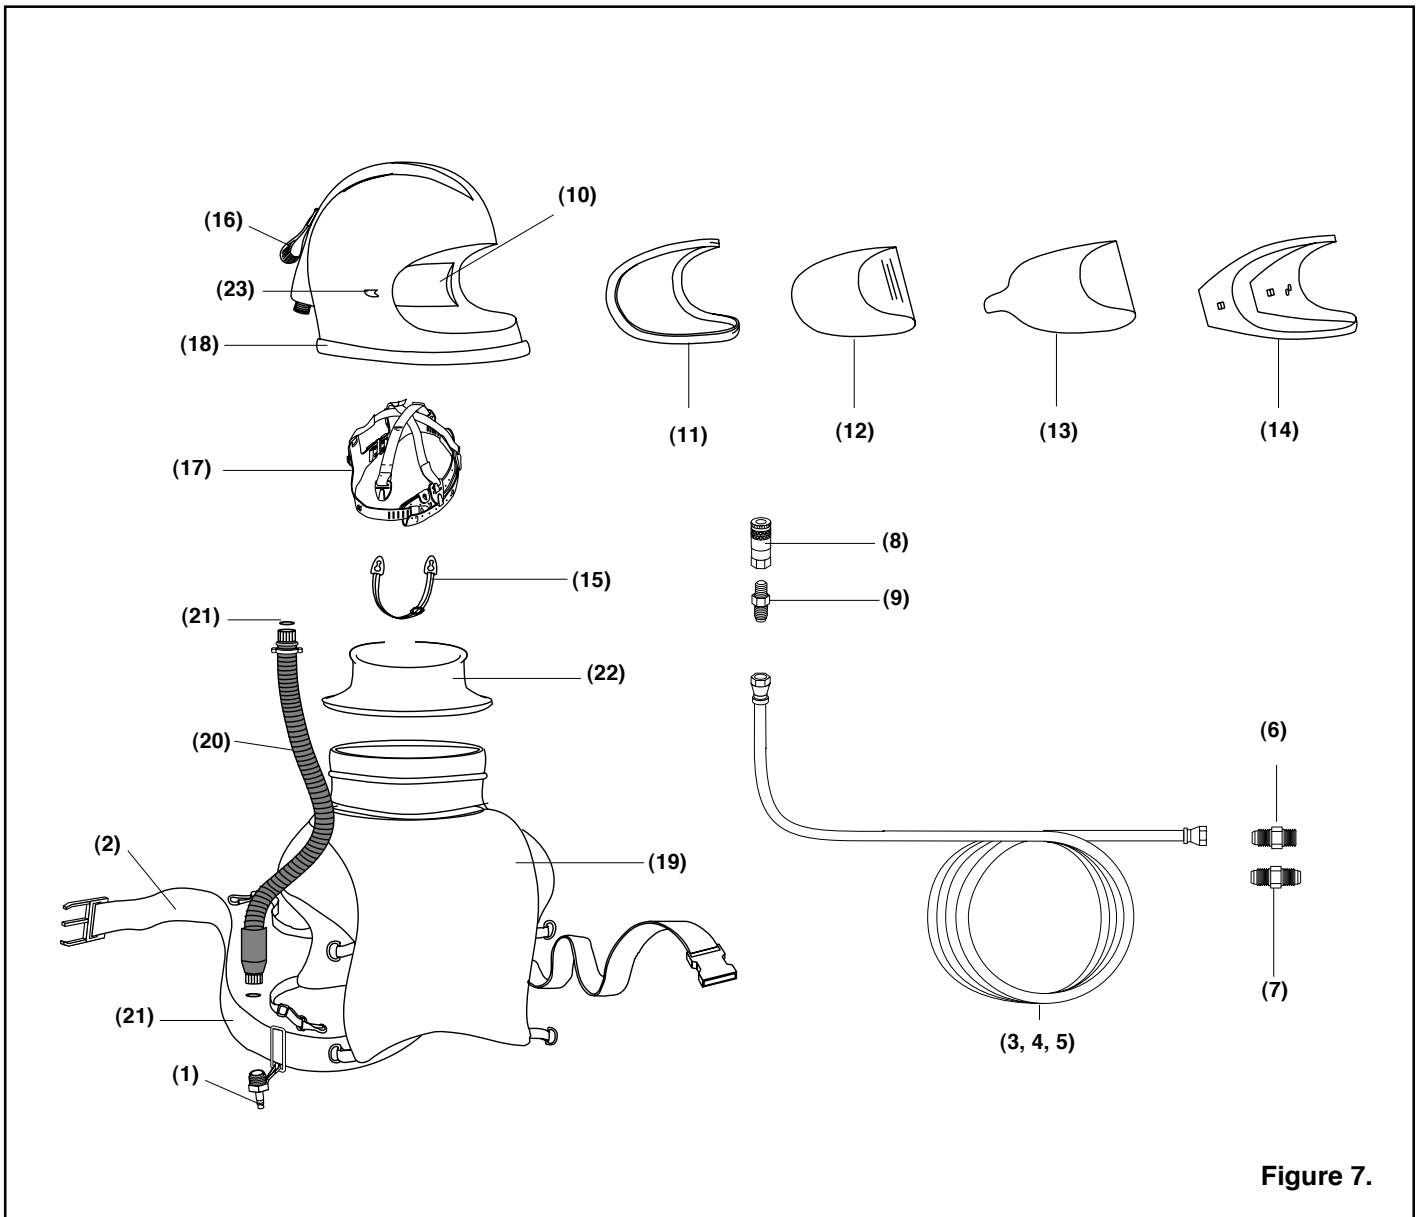

Figure 7.
10.2 Supplied-Air Respirator, Figure 7